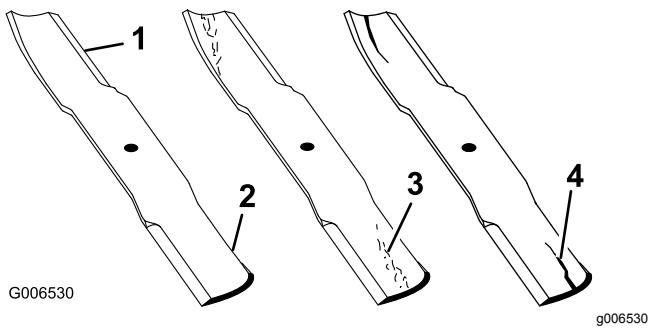

Figure 132
2. Examine the cutting ends of the blade carefully (especially where the flat and curved parts of the blade meet) as shown in Figure 132.
Note: Since sand and abrasive material can wear away the metal that connects the flat and curved parts of the blade, check the blade before using the mower. If you notice wear, replace the blade (Figure 132).